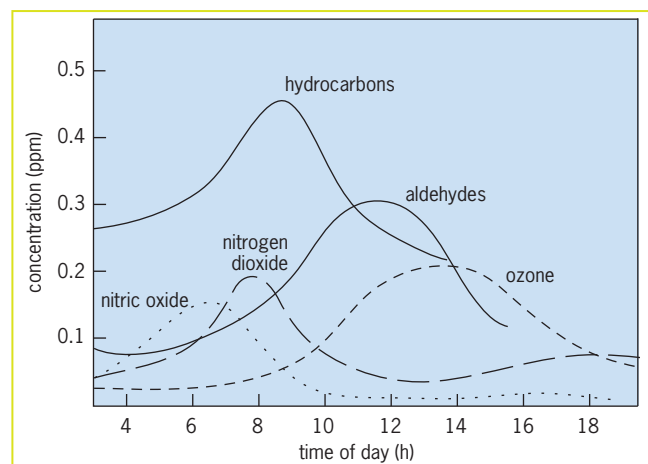

Figure 5.10.5 The components of photochemical smog and their relationships.
It is interesting to see the relationship between all the players involved in the formation of photochemical smog, as shown in figure 5.10.5.
- 7 Explain the relationships that exist in figure 5.10.5 between the primary and secondary pollutants.